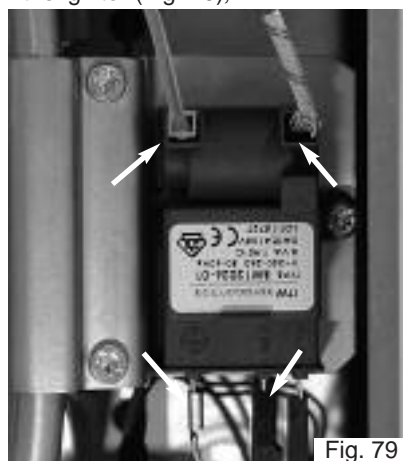

Fig. 79
2. Disconnect the ignition electrode, live, neutral and earth cables from the ignitor (Fig. 79);